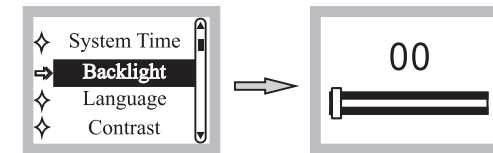

Fig. 18
- (4) Changing Backlight Brightness Time: 00 is constant. The parameter can be set by an interval of 10 seconds between 00 and 240 seconds, Fig. 18.